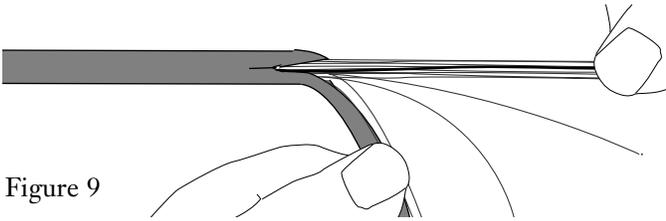

Figure 9
4.8 Peel the split jacket back to the strip length mark (Figure 9).